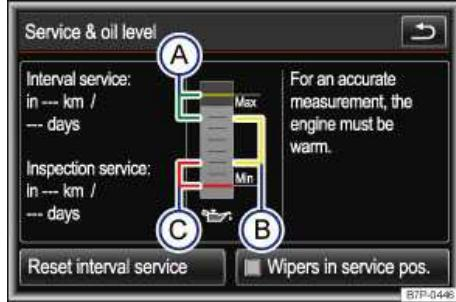
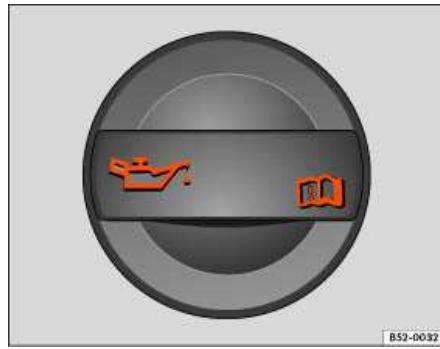

Fig. 316 Infotainment System: Engine oil level display.
Fig. 317 In the engine compartment: Engine oil filler cap.
3. The vehicle has **no** engine oil dipstick under the engine compartment. The current engine oil level can be viewed through the Infotainment screen by following these steps =>fig. 316:
4. Required steps after reading the engine oil level =>fig. 316:
- (A): **Do not** add any oil =>. Continue with step 12.
- (B): Oil may be added (about 1 pint / 0.5 liter). Continue with step 6 to step 12.
- (C): **You must** add oil (about 1 quart / 1.0 liter). Continue with step 6 to step 12.
6. The engine oil filler opening can be identified by the symbol on its cap =>fig. 317. If you are not sure where it is, contact your authorized Volkswagen dealer or authorized Volkswagen Service Facility.
7. Remove the cap on the engine oil filler opening =>fig. 317.
10. Recheck the engine oil level through the Infotainment screen, after adding oil, the level must at least be in the center of the =>fig. 316 \(B\) area, but never above (A) =>. Never add too much oil.
⇒ fig. 316	Required action according to the respective engine oil level: